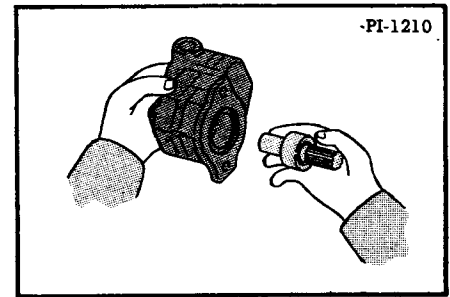

Fig. 135 Pulling Drive Shaft from Pump
3. Pull the pump drive shaft out of the pump (Figure 135). The ball bearing will come with it.